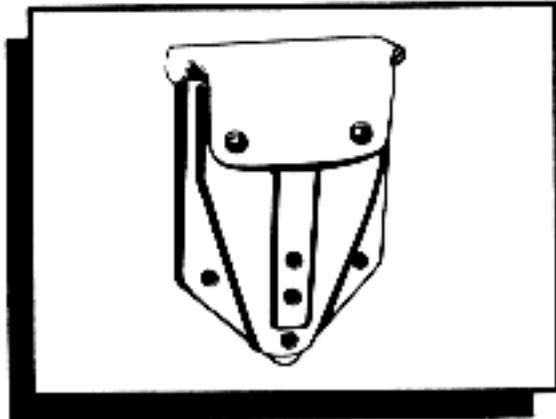

Figure 4-5. Intrenching tool carrier.
**Intrenching Tool Carrier.** This carrier (figure 4-5) holds the lightweight, collapsible intrenching tool.